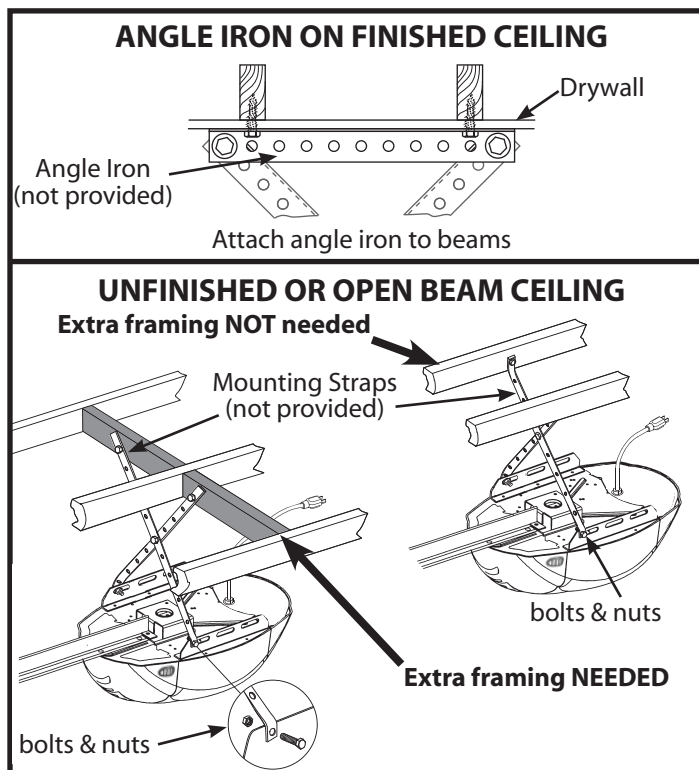

FIG. 2-6 Mounting the power head
- On finished ceilings, locate ceiling joists or trusses using a stud finder or similar device. Attach angle iron (not provided) to joists or trusses through finish material using (provided) lag screws (**Fig. 2-6**).
- On unfinished ceilings or open ceilings, straps may attach directly to joists or trusses. Depending on the garage construction, extra framing material (not provided) which may be required should be installed using appropriate construction techniques (**Fig. 2-6**).
- Attach mounting straps to ceiling using lag bolts (**Fig. 2-6**).
- Set height of power head to following: (**Fig. 2-6**).